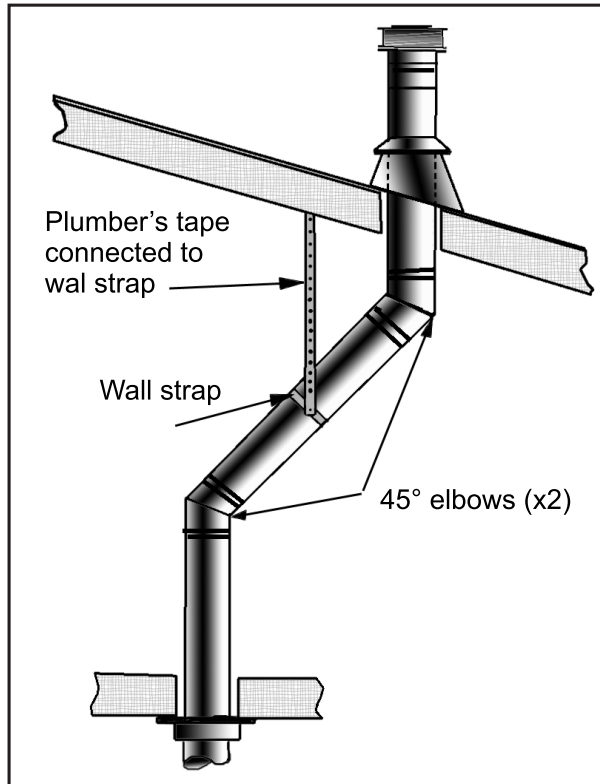
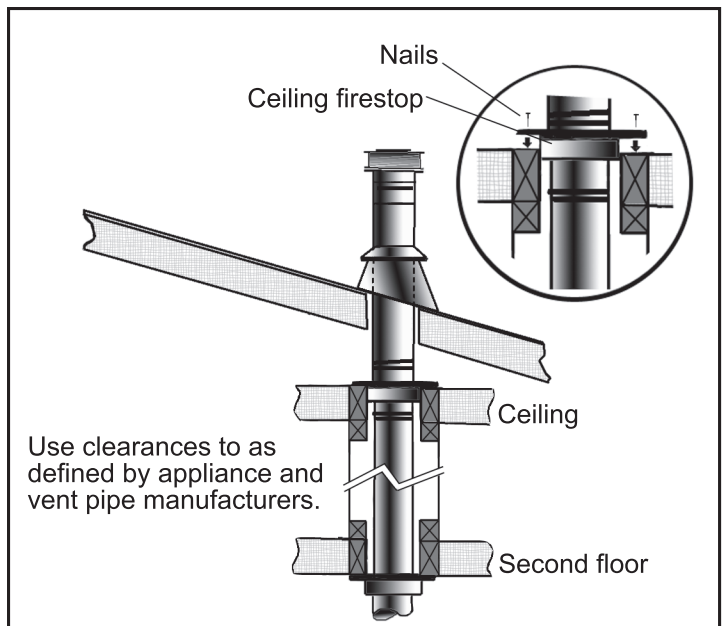

Figure 31: Use of Wall Straps.
Figure 32: Multi-Story Vent Pipe Installation.
- (1) If an offset is necessary in the attic to avoid obstructions, it is important to support the vent pipe every 3 feet (914 mm), to avoid excessive stress on the elbows, and possible separation. Wall straps are available for this purpose (see Figure 31).
- (2) When ever possible, use 45° degree elbows instead of 90° degree elbows. The 45° degree elbow offers less restriction to the flow of flue gases and intake air.
- (3) For multi story installations; a ceiling firestop is required at the second floor, and any subsequent floors (see Figure 32). The opening should be framed to 10" (254 mm) x 10" (254 mm) inside dimensions, in the same manner as shown in Figure 21.
- (4) Any occupied areas above the first floor, including